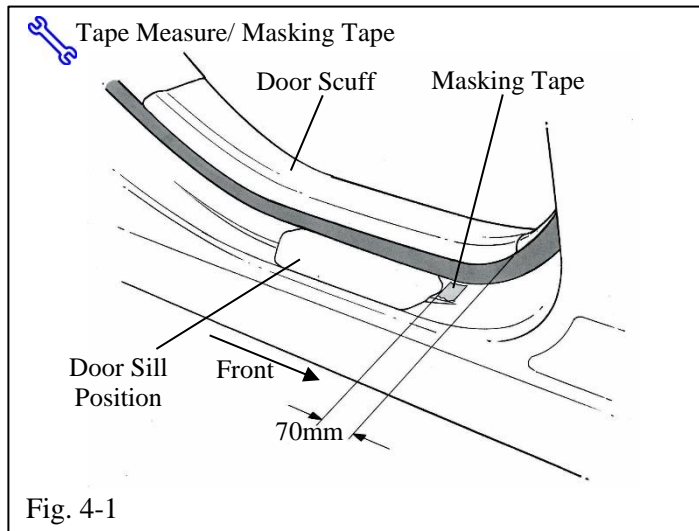

Fig. 4-1
- Apply a piece of masking tape on the door sill – 70mm from front seam of door scuff. (Fig. 4-1)
- a. Once installation of both front and rear door sills are complete, remove the masking tape used to locate the parts. (Fig 2-1 & Fig. 4-1)